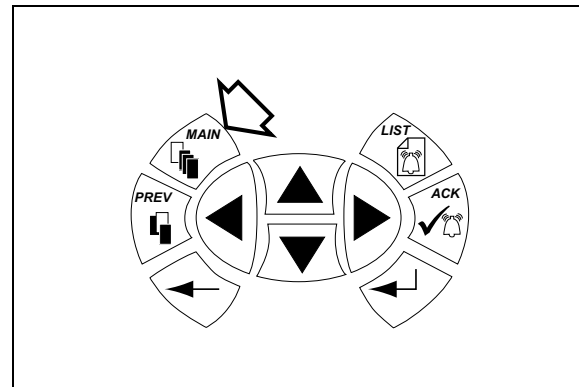
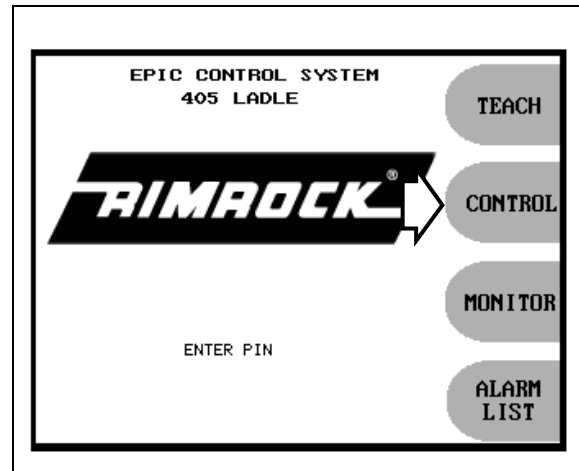
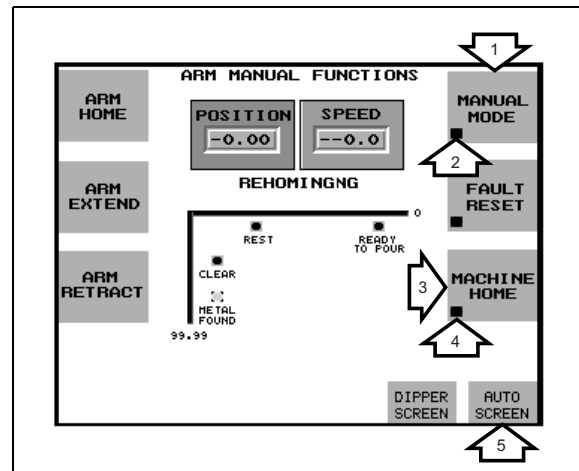
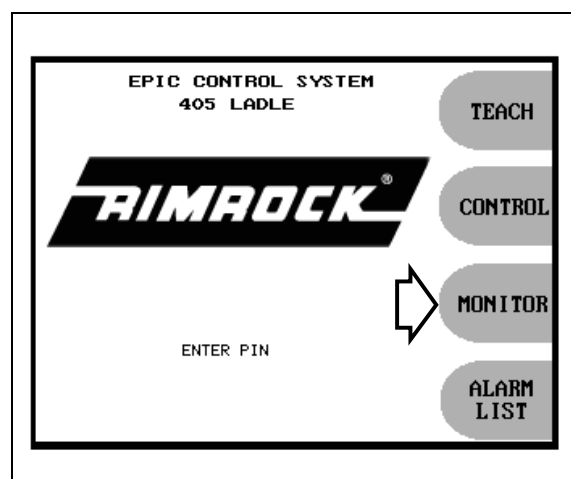

Figure 8-7: Main Key
Figure 8-8: Main Screen
Figure 8-9: Arm Manual Functions Screen
Figure 8-10: Monitor Key
6. If the Main Screen is not visible in the graphic display area, press the **MAIN** key in the built-in function keys (Figure 8-7). The Main Screen displays (Figure 8-8).
7. Press the **CONTROL** key (Figure 8-8). The Arm Manual Functions Screen displays (Figure 8-9).
8. Press the **MANUAL MODE** key (#1 on Figure 8-9) to place the control in manual mode. The MANUAL push-button lights and the HMI Screen indicates that the unit is in manual mode by lighting a small square by the **MANUAL MODE** key (#2).
b. Press the **MAIN** key in the built-in function keys (#1 on Figure 8-7) and then select the **MONITOR** key on the Main Screen (Figure 8-10). The Monitor Screen displays.